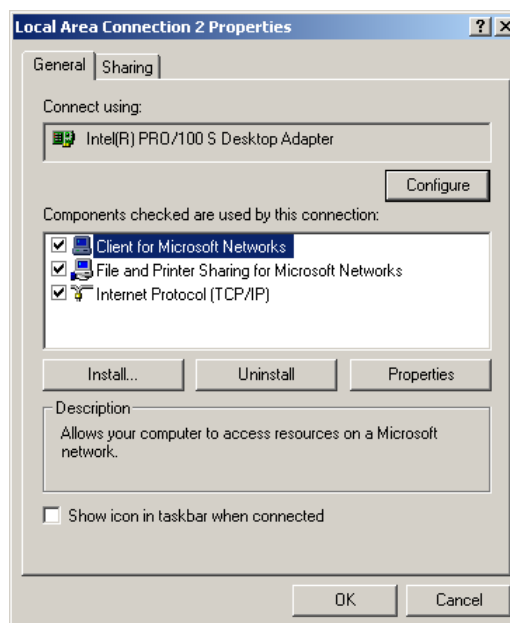

Figure 1.5-2 Local Area Connection 2 Properties dialog box
The “Local Area Connection 2 Properties” dialog box (Figure 1.5-2) will appear.
- (4) Select “Internet Protocol TCP/IP” on the “Local Area Connection 2 Properties” dialog box (Figure 1.5-2). Then, select “Properties.”